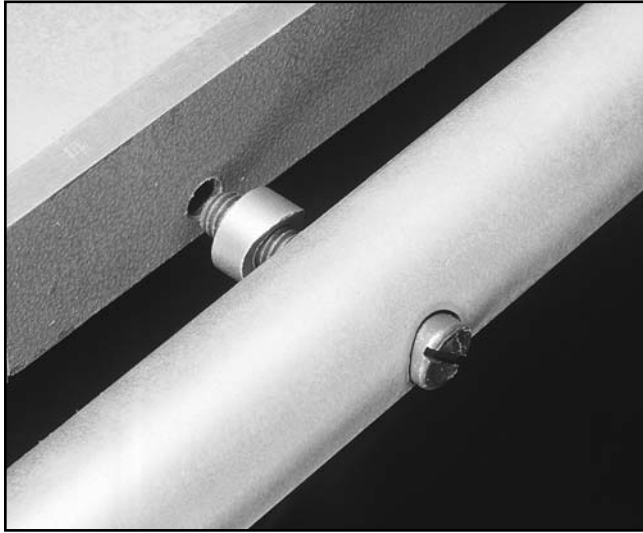

Figure 22. Attaching fence rails.
1. The two center bolts for each rail thread directly into the table top, and the outer two bolts secure from the back side of the extension wing with hex nuts as shown in **Figure 22**. Be sure that the rail with the built-in measuring rule is mounted on the front side of the machine, with the markings facing up.